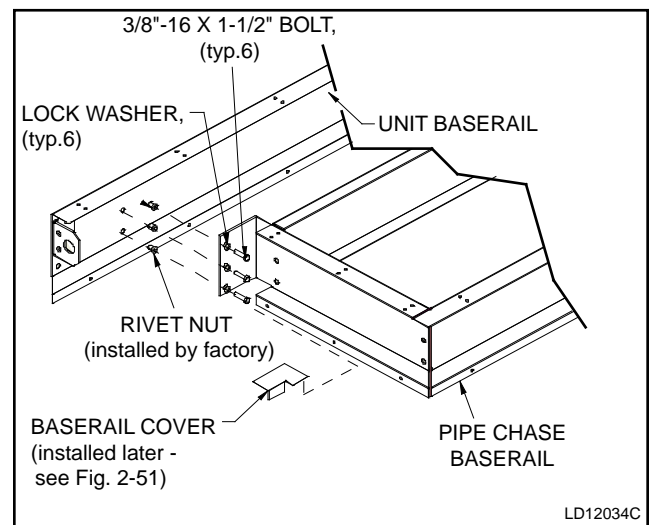

FIG. 2-43 – PIPE CHASE BASERAIL TO UNIT BASERAIL INSTALLATION (When Purchased)
- If there is a baserail, attach the baserail of the pipe chase to the baserail of the air handler. Use 3/8" bolts & lock washers provided; placing bolts through the pipe chase baserail brackets into the threaded holes in the air handler baserail (see Fig. 2-43).